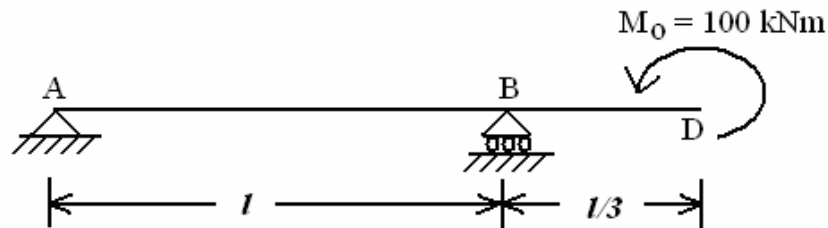

Figure 4
6. Compute the maximum deflections and support rotations in the beams of the following Figure 4 using